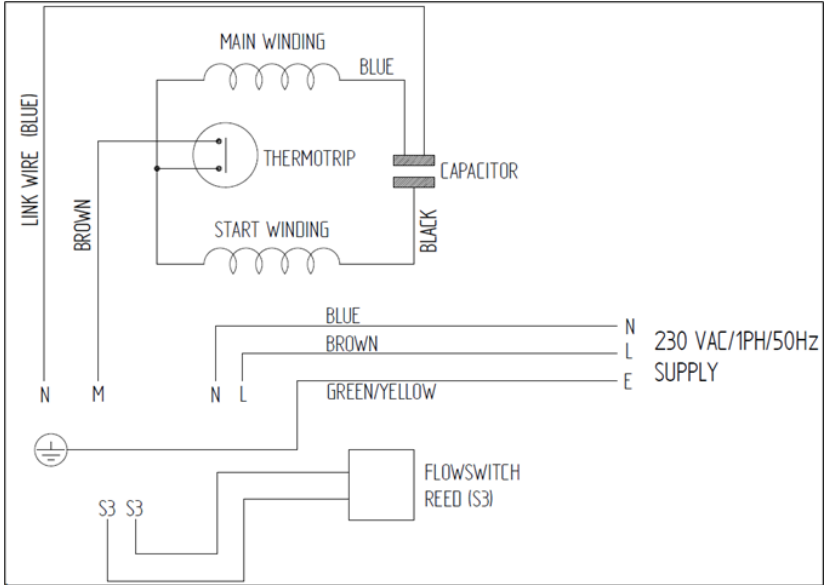

Figure 3
- The supply cord and internal wiring within the terminal box are routed and secured to ensure compliance with the electrical standard EN 60335-1. Do not disturb the internal wiring or factory routing and securing of all internal wiring – (see fig 3).